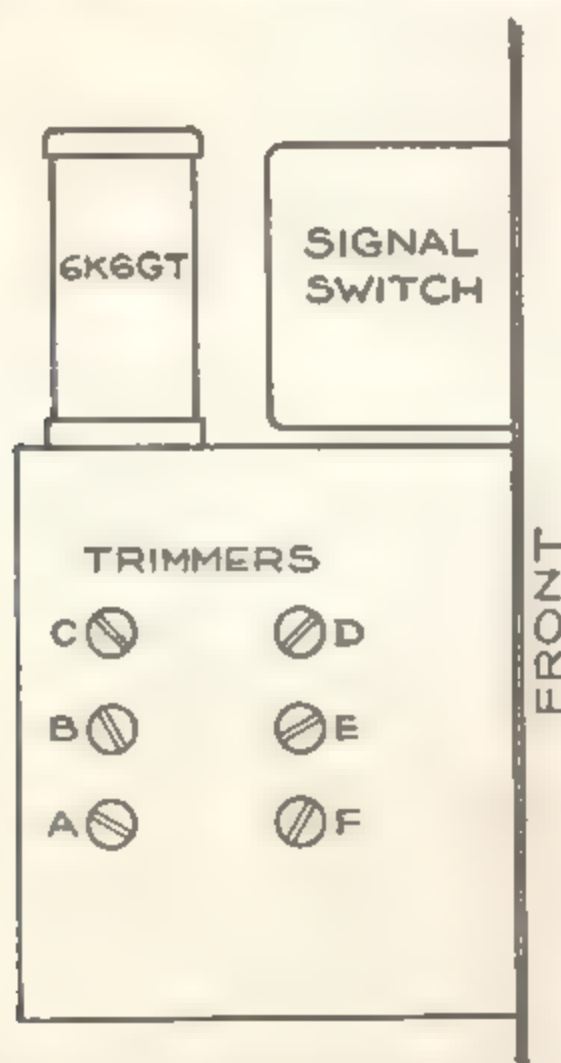
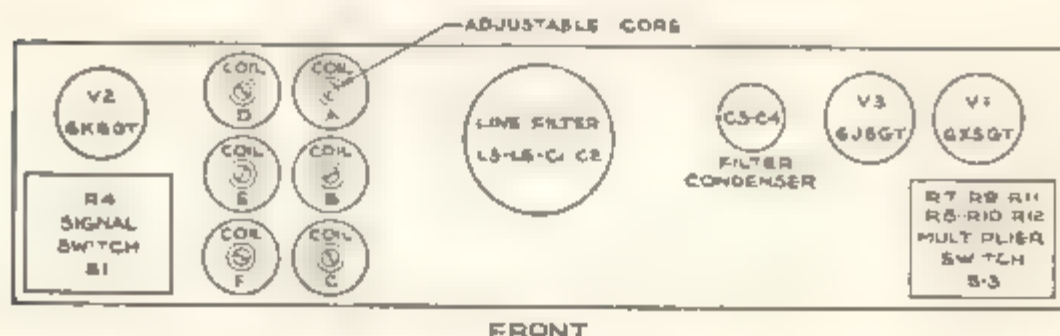

Figure 13 End View of Model 340 Chassis Showing Location of Trimmer Adjustments
Figure 14 Top View of Model 340 Chassis Showing Location of Coils and Tubes
The tubes in the Model 340 will normally have a long life but should be checked occasionally and, if they show any weakness, should be replaced with new ones. The RF oscillator tube, 6K6GT, should be replaced with a GT type of tube only. The location of tubes is shown in the top view of the chassis, Figure 14.
is shown in Figure 14 and a view of the left end of the chassis with the location of the trimmers indicated is shown in Figure 13.
c. To adjust the Model 340 in the 200 KC position, leave the dial set at exactly 200 KC and adjust the trimmer in the left end of the chassis marked "A", as shown in Figure 13, until a condition of zero beat is reached.
e. Adjust the core in coil "A" on top of the chassis as shown in Figure 14 until a condition of zero beat is reached.